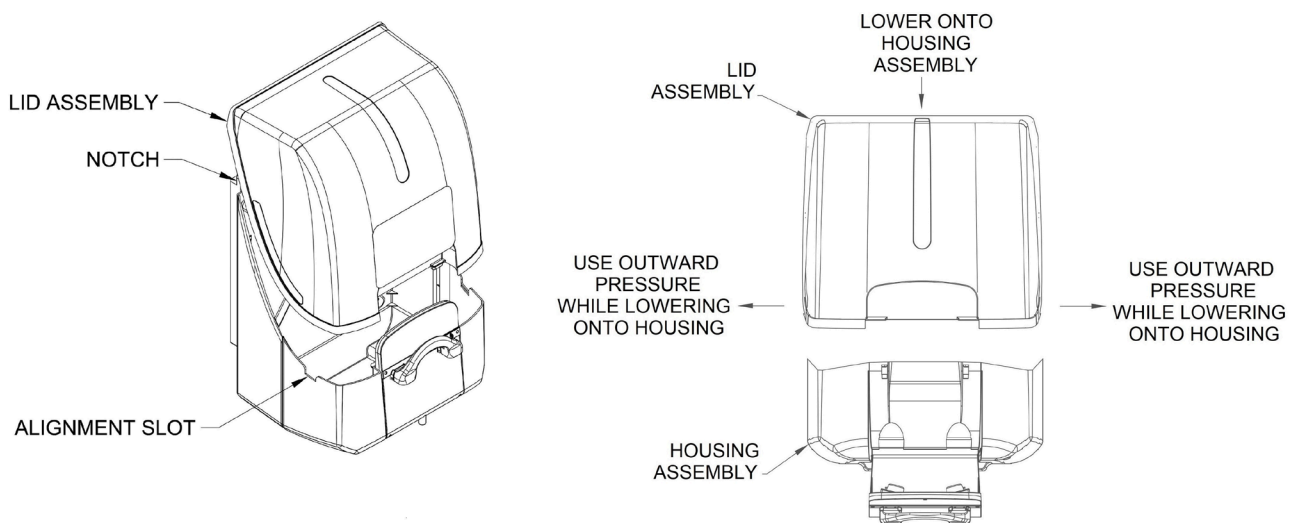

FIGURE 12
- A. Install by putting outward pressure on lid bottom while setting it onto housing assembly. Tabs on both sides should “snap” into place at alignment slot inside housing assembly (**Figure 12**).